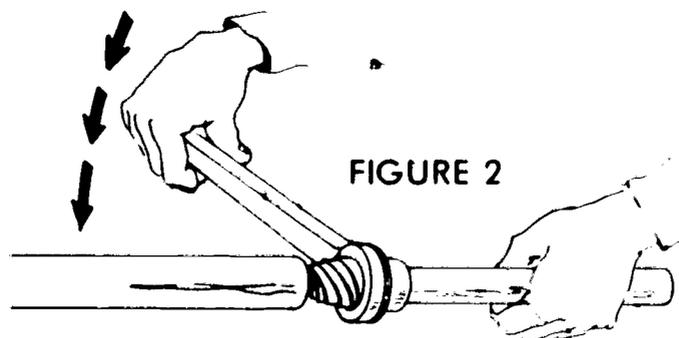

FIGURE 2
D. Start rotating reamer (Figure 2)